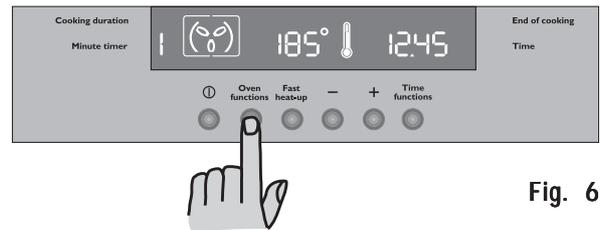

Fig. 6
- 1) Switch on the oven by pressing the ① button.
- 2) Press button Oven function to select the required oven function. Each time button Oven function is pressed, a cooking symbol will appear in the display and the corresponding cooking function number will appear to the left of the currently selected cooking function symbol (Fig. 6).